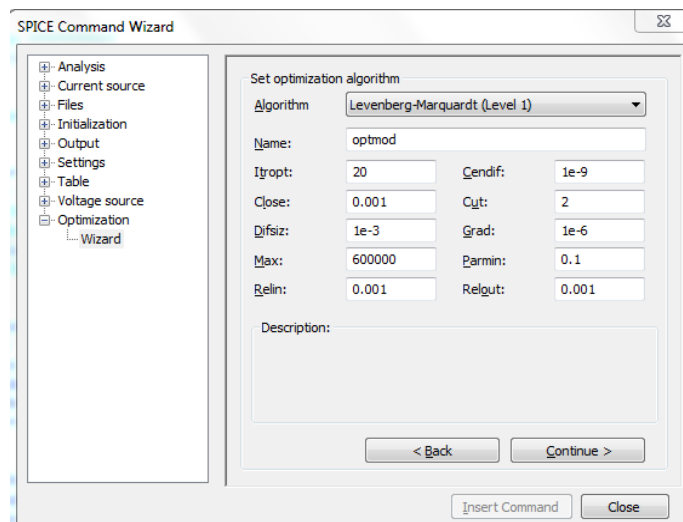

Figure 79: Customizing the optimization algorithm
- ☑ In the **Name** field, type **optmod**. Accept the default values for the other parameters (Figure 79).